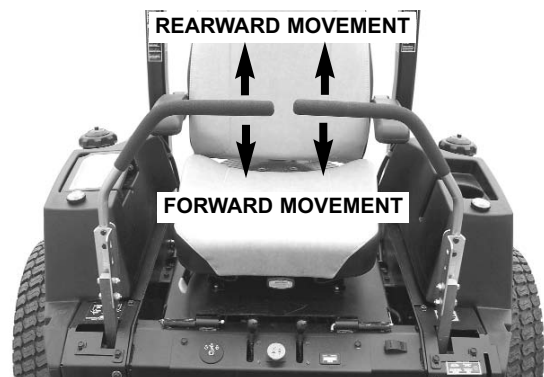

FIGURE 3.12
3. Drop motion control levers down from neutral lock positions. See Figure 3.12.
4. Move motion control levers gently and with caution in desired direction. See Figure 3.12.